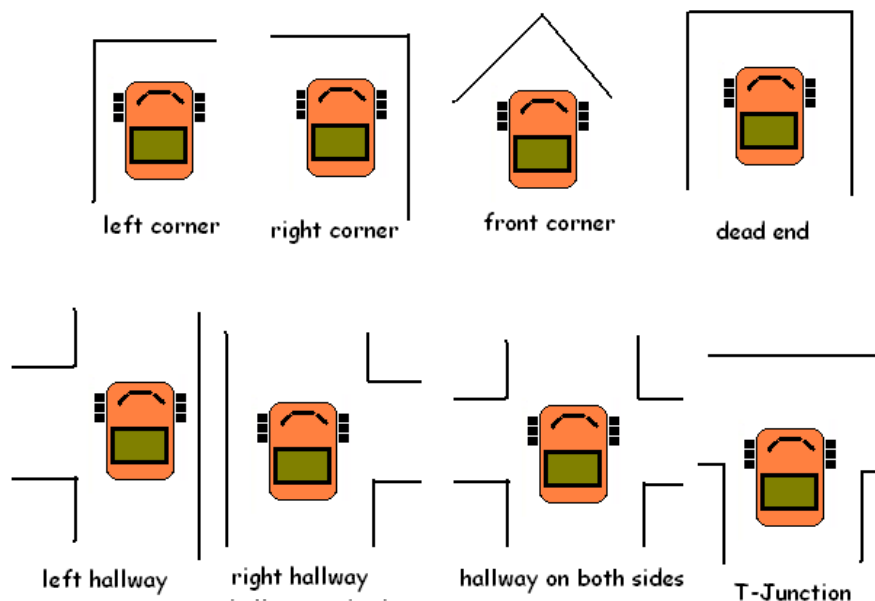

Figure 13: Distinctive Places
2. It would be advisable to use a combination of the IR and sonar for sensor redundancy to identify these locations in the world. There will be some sensor error, this is a standard problem in mobile robot navigation and the program should be designed in such a way to minimize the effect of the error. For example, average 5 or 10 readings and filter out spurious readings. Figure 13 provides descriptions of the possible world landmarks.